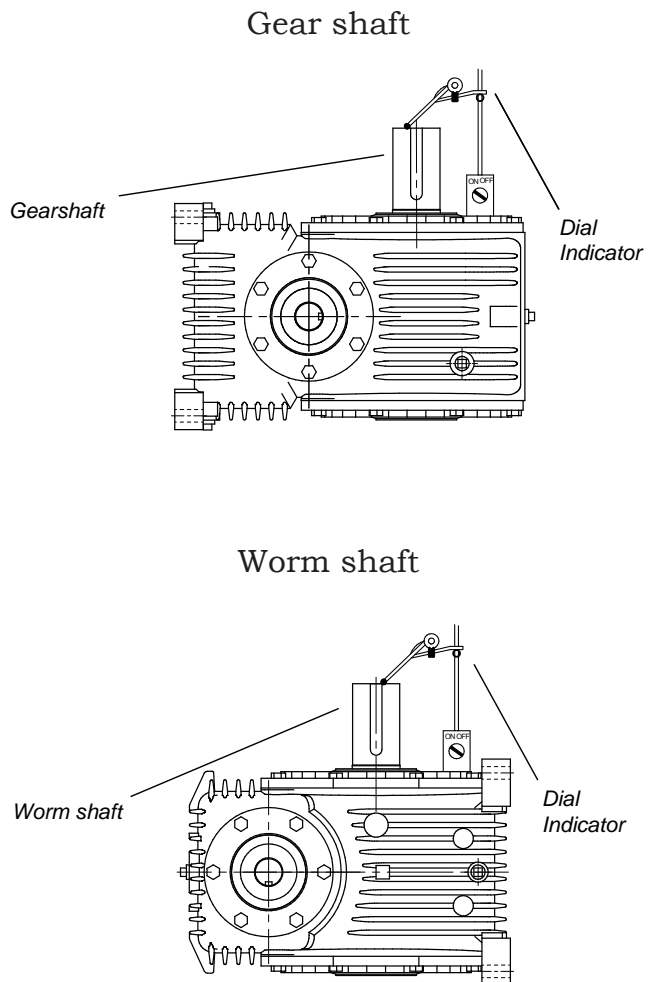

Figure 4
1. The first step for checking bearing settings is to assemble one (1) gear carrier starting with the same number of shims as with old reducer or the nominal shim thickness called for on the assembly drawing. Install the gearshaft assembly and bolt the remaining gear carrier and shims into the housing. Rotate the shaft while tapping on the end to seat the bearing rollers. Check the gear bearing setting with an indicator as shown in figure 4. With the dial indicator set at zero, pull up on the shaft while watching the dial indicator. Add or subtract shims as necessary to achieve the proper bearing setting shown in Table 3. The shims should be equal under both carriers so that the worm and gear are centered in the housing, unless there is a grease retainer being used.
2. Remove one (1) gear carrier and the gear shaft assembly from the housing. Note: keep track of the amount of shims needed under the carrier.